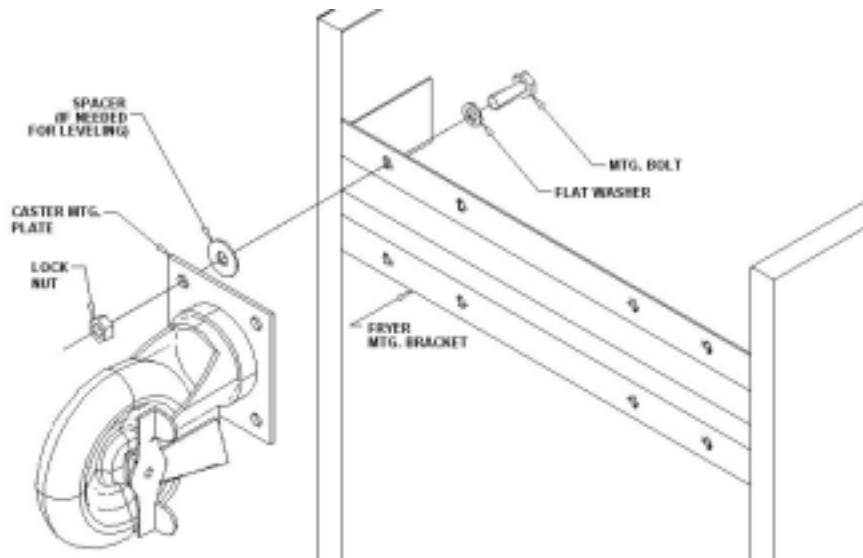

Figure 4. Typical Caster Installation
2. Position the side of the fryer flat on the carton, exposing the fryer bottom mounting brackets for caster installation, as shown in Figure 4.
4. Position the rear side of the fryer on the shipping carton, exposing the bottom of the fryer with the caster mounting plates (Figure 4).